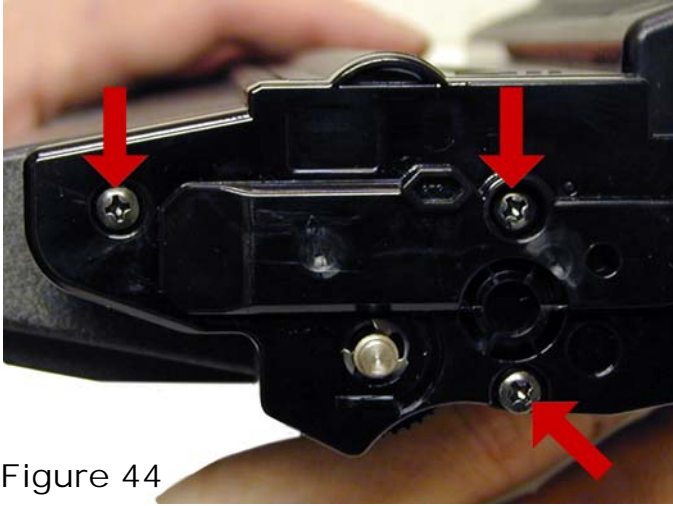

Figure 44
41) Install the right side end cap and three screws. Make sure the top rear tabs lock in place. **Figs. 44 & 45**